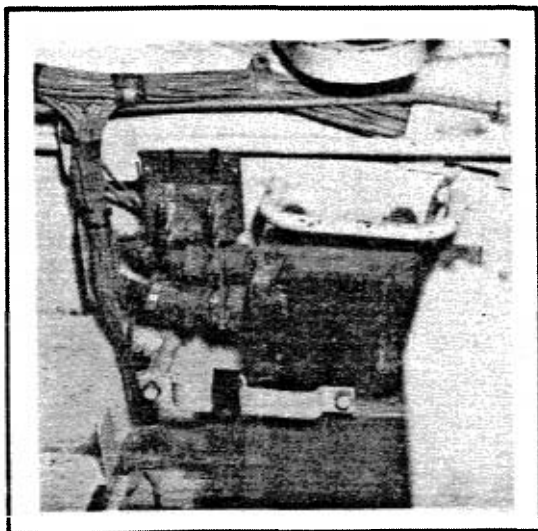

FIG. 3-66. PREHEATER CONTROLS
c. Pre-Heater(Figs. 3-66, 3-67). The engine pre-heater apparatus is located beneath the Tank Commander's seat. The control panel for the pre-heater is located immediately to the left and below the Tank Commander's seat.